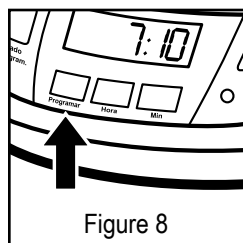

Figure 8
1. While the coffeemaker is off, press and hold the SET DELAY button. See Figure 8.